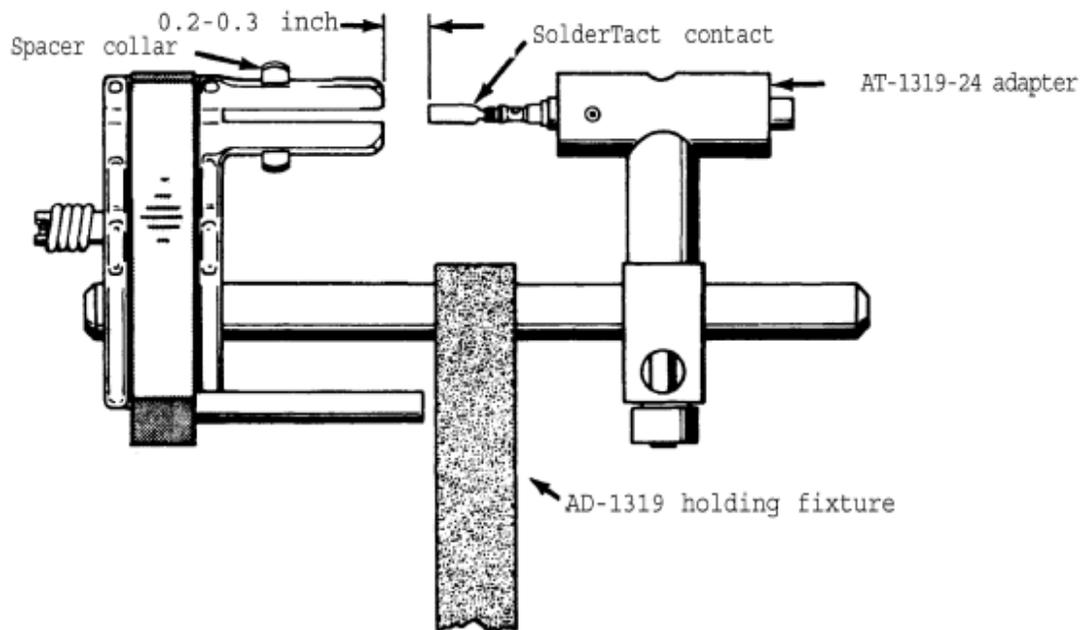

Figure 6-1. Setup Dimensions for AD-1319 Holding Fixture
1. Install the AT-1319-24 adapter onto the AD-1319 holding fixture (See Figure 6-1).
2. Insert a contact in the adapter and set the dimensions as shown in Figure 6-1.